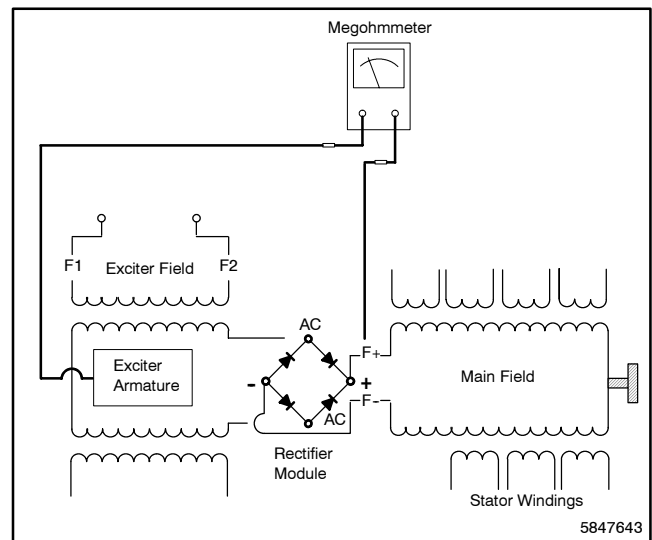

Figure 5-41 Megohmmeter Connections on Main Field (10/12RZ Shown)
3. Check main field for a grounded condition by using a megohmmeter. Apply 500 volts DC to either field lead and main field frame. Follow the instructions of the megohmmeter manufacturer when performing this test. See Figure 5-41. A reading of approximately 500 kOhms (1/2 megohm) and higher indicates the main field is good. A reading of less than approximately 500 kOhms indicates deterioration of winding insulation and possible current flow to ground. Repair or replace the main field.